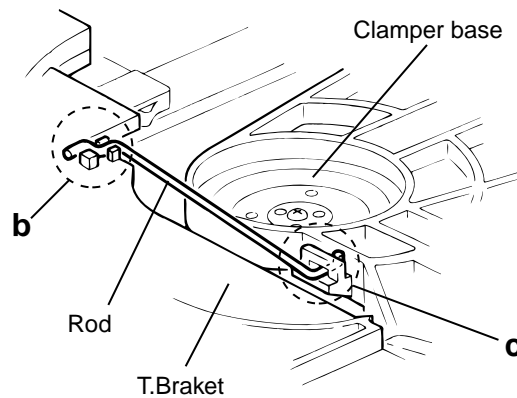

Fig.2
### ■ Removing the CD tray assembly (See Fig.2~4)
1. Remove the front panel assembly. (See Fig.2~4)
5. From the T.bracket section "b" and clamber base section "c", remove both of the edges fixing the rod(See Fig.2 and 3).